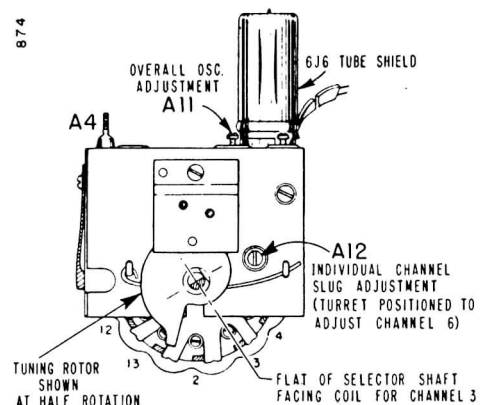

Fig. 32. Front View of Tuner.
- c. Set the Tuning control at half rotation by rotating it approximately 150° as shown in figure 32. Set Picture control fully to the right (clockwise).